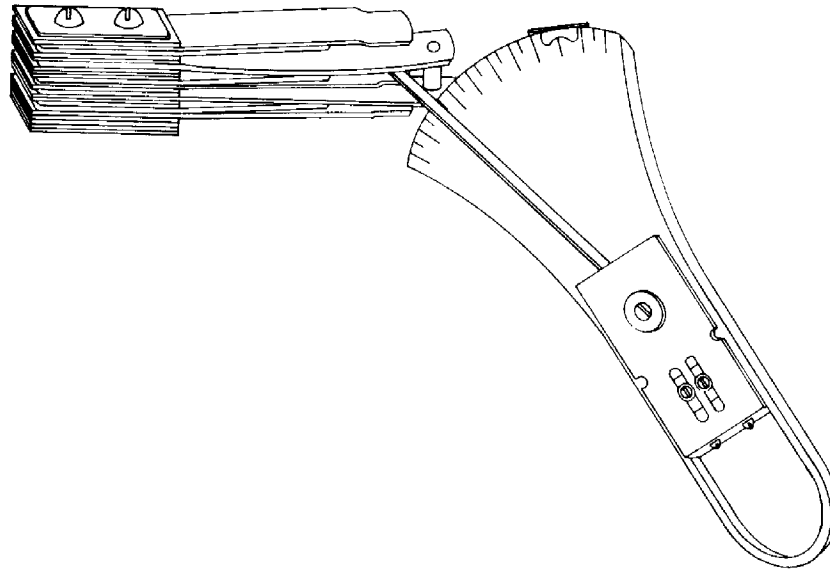

Figure 10. Testing Restoring Force of Hookswitch Contact Points.
2.16 To check the hookswitch, test force of contact points with the receiver off-hook and the tip of the tension gauge 1/16 inch above contacts (see Figure 10). Force must not be less than 2-1/2 ounces (78 grams). Check the clearance between contacts when open; it must not be less than 1/64 (.015) inch. Check the degree of operating spring movement; it must not be less than 5/64 (.078) inch. The hookswitch must go to a full stop when the handset is taken off-hook.